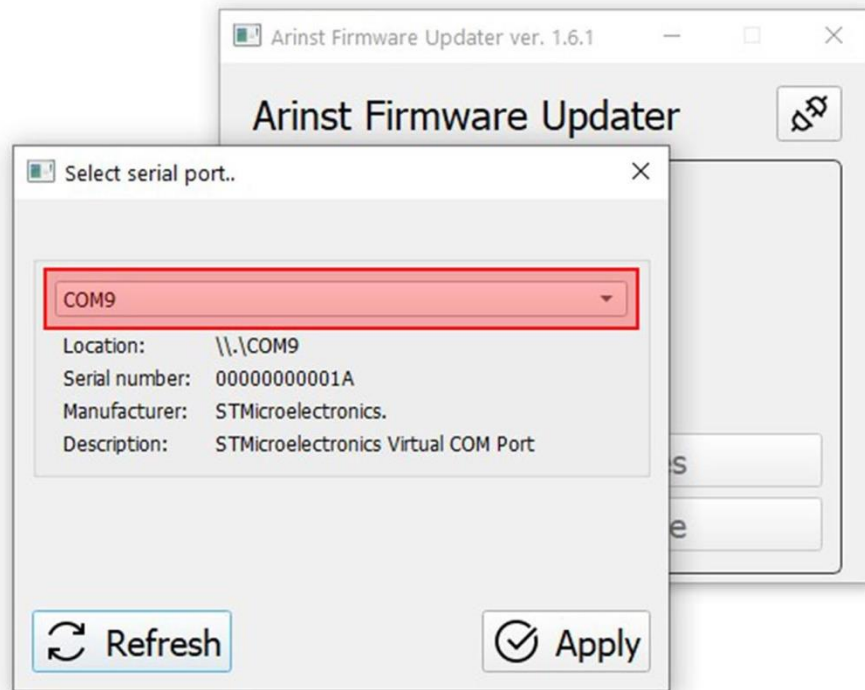

Figure A2.2 – Selection of a virtual COM port for connecting the device
2.4. In the window that opens, select the virtual COM port for connecting the device from the drop-down list (Figure A2.2).
*In our example in figure A2.2, the virtual port COM9 is selected.*